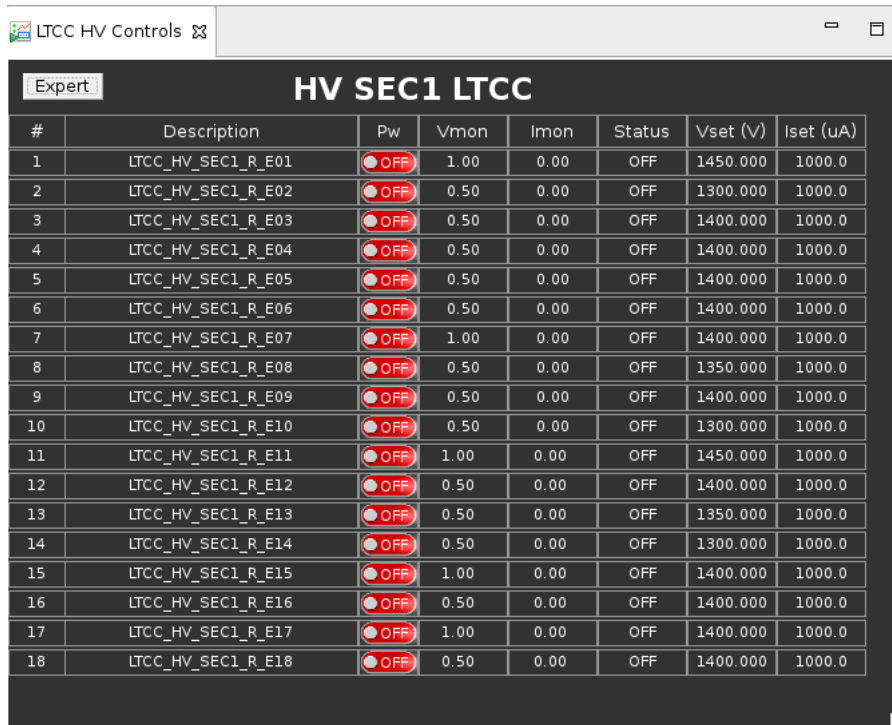

Figure 7: LTCC HV “novice” channel controls screen.
If the “Controls” option is selected for a sector or a left/right part of a sector, a “novice” window is opened as shown in Fig. 7. This window shows the monitored channel voltage and current (V_{mon} (V) and I_{mon} (μA)), the channel status (OFF, ON), and the set channel voltage and current (V_{set} (V) and I_{set} (μA)). If desired, shift workers can toggle the HV settings for single channels on or off through this interface.